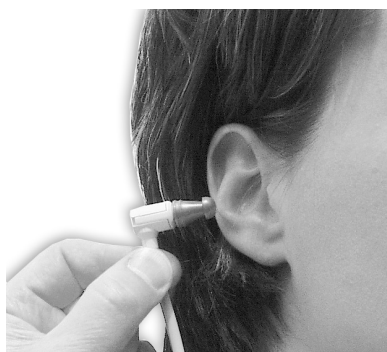

Figure 16
1. The remote probe uses the same disposable eartips as the ERO•SCAN probe. Place the eartip fully onto the probe tip (Figure 16).